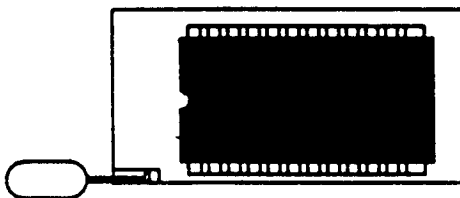

FIGURE 3.1A: PLACEMENT OF EEPROM IN SOCKET
2. Place a master (previously programmed) 2816 chip in the large socket on the programmer, making sure that the notch on the chip is towards the lever (see Figure 3.1A).